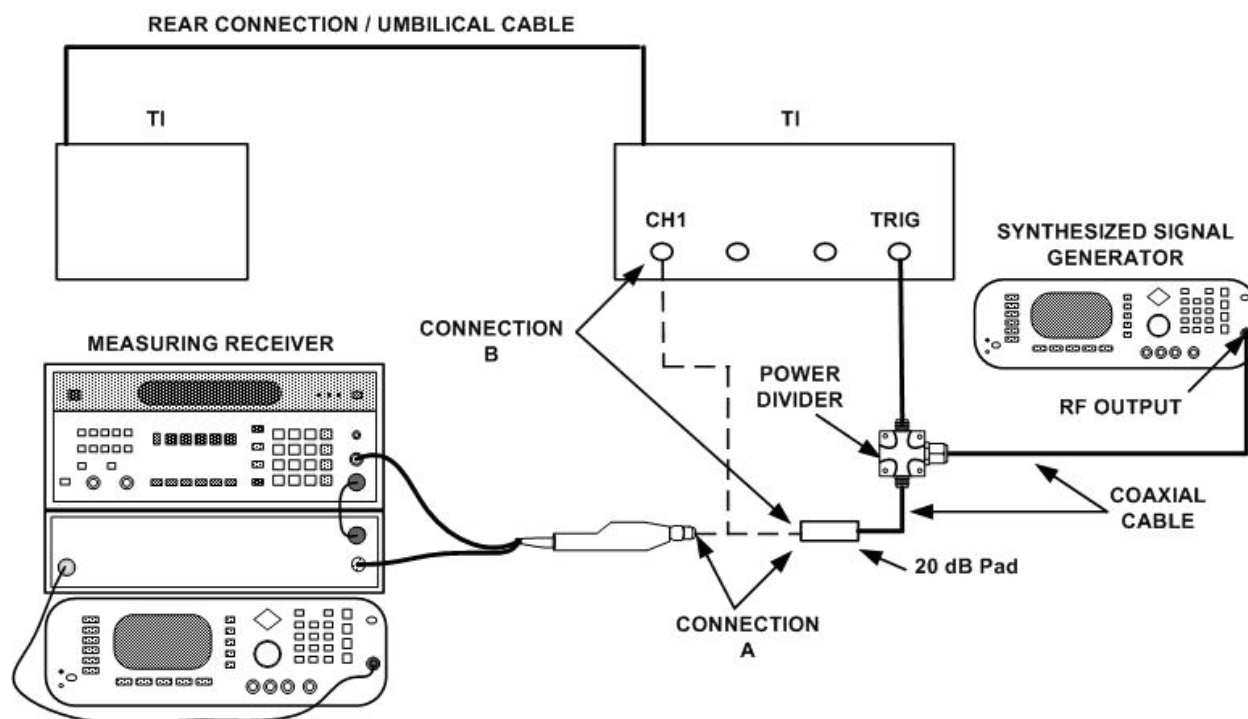

Figure 1. Low bandwidth - equipment setup.
(4) Connect equipment as shown in figure 1, CONNECTION A.
(7) Connect equipment as shown in figure 1, CONNECTION B.
(8) Press the **SYSTEM CONTROL /CLEAR DISPLAY** pushbutton and allow 64 averages to accumulate (top left corner of display).
(9) Press the **More** key. **Measure Chan 1** and **Precision Fine** will be highlighted.
(10) Press the **More** (vertical) key until **RMS Voltage** menu is displayed. Press **RMS Voltage** key and record RMS voltage of synthesized signal generator in table 4, part 2.